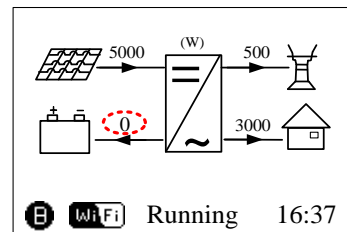

Figure 14 SH5K+ Home Screen
Step 5 Soon as you see '0' beside the battery the communication is connected (Figure 14).